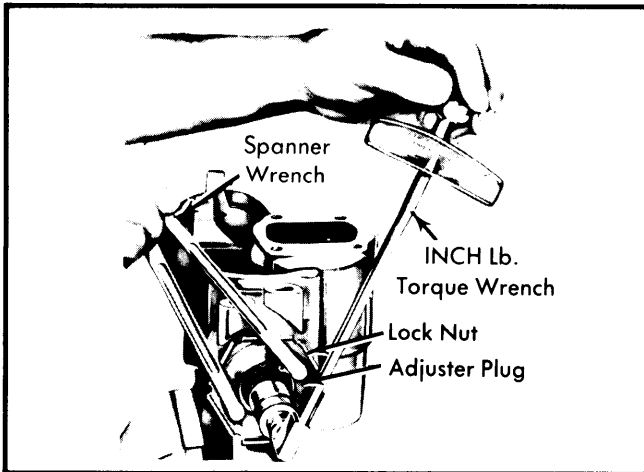

Fig. 2 Measuring Thrust Bearing Preload
3) Attach an INCH lb. torque wrench to end of input shaft. Turn input shaft to right stop, then back $\frac{1}{4}$ turn. Using torque wrench, measure rotational torque required to turn shaft. Reading should be taken with beam of torque wrench near vertical while turning it counterclockwise at an even rate. Torque reading should be 4-10 INCH lbs. See Fig. 2.